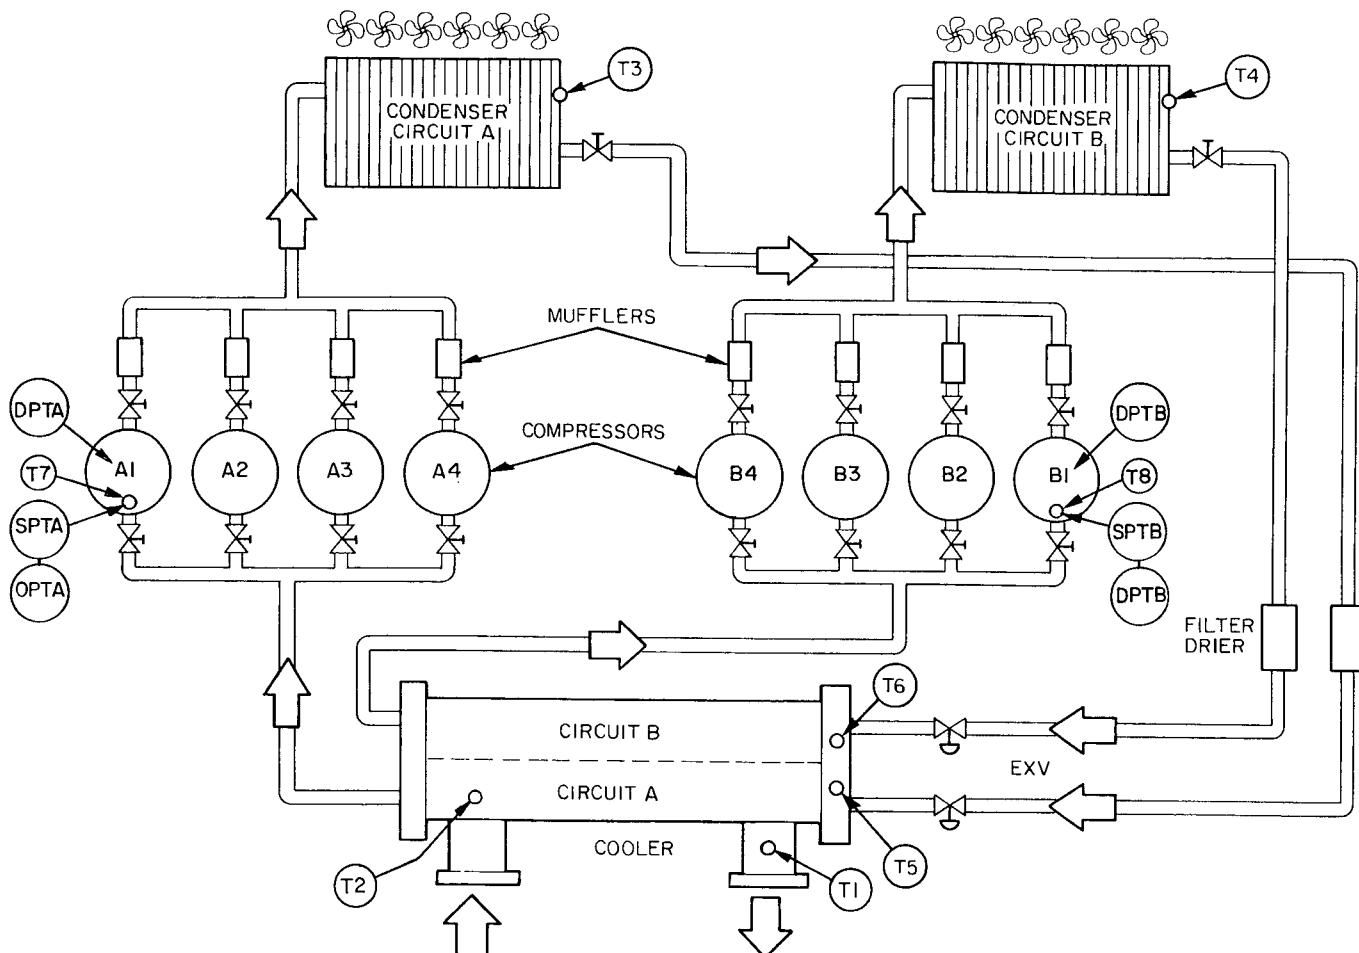

Fig. 10 — Thermistor and Pressure Transducer Locations
Step 4 — Check Thermistors and Pressure Transducers that Control EXV — Check thermistors and pressure transducers that control processor output voltage pulses to EXV's. See Fig. 10 for locations.
LOCATION — General location of thermistor sensors are shown in Fig. 10.